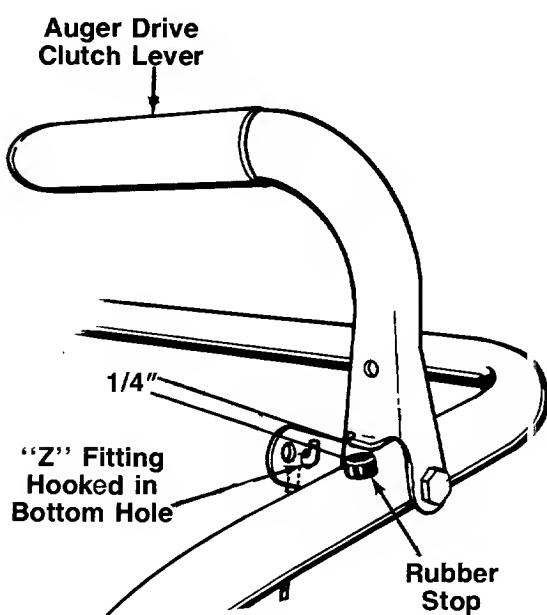
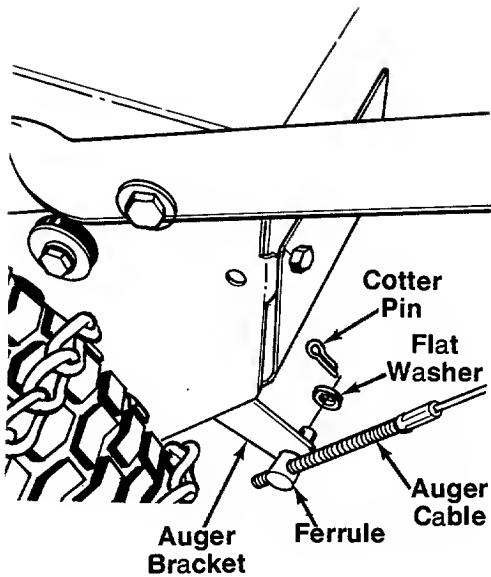

FIGURE 14.
FIGURE 15.
1. Hook the "Z" fitting on the end of the auger cable into the bottom hole in the auger drive clutch lever (left hand side of handle). Hook the fitting from the inside to the outside as shown in figure 14.
2. Raise the clutch lever so it is approximately $\frac{1}{4}$ " away from the rubber stop on the handle, as shown in figure 14. With the clutch lever in this position, thread the ferrule onto the end of the auger cable until it lines up with the hole in the auger bracket. See figure 15.
3. Insert the ferrule into the auger bracket as shown in figure 15. Secure with $5/16$ " flat washer and cotter pin, bending the ends of the cotter pin in opposite directions.